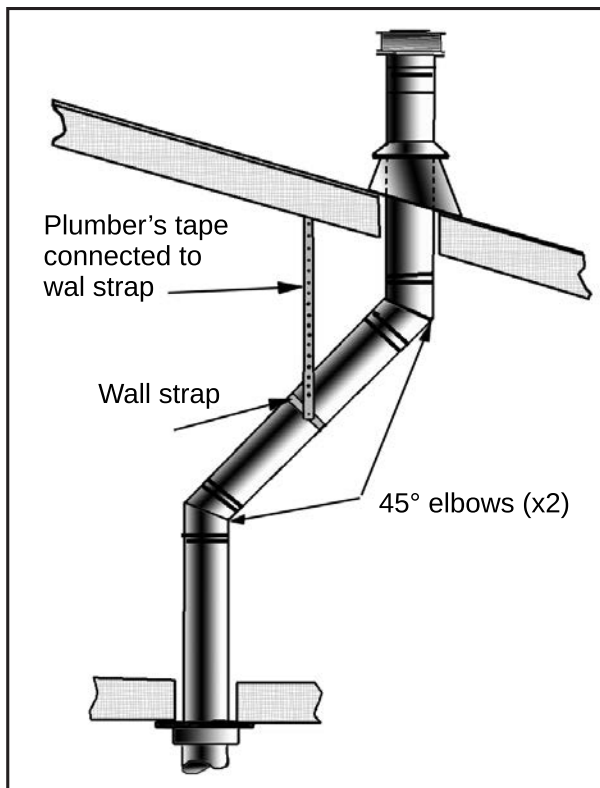
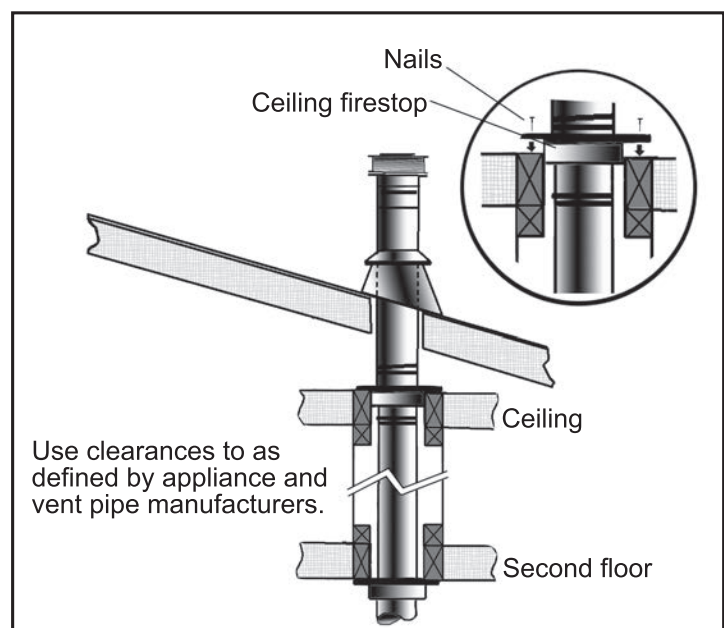

Figure 64: Use of Wall Straps.
Figure 65: Multi-Story Vent Pipe Installation
- (1) If an offset is necessary in the attic to avoid obstructions, it is important to support the vent pipe every **3' (914 mm)**, to avoid excessive stress on the elbows, and possible separation. Wall straps are available for this purpose (see Figure 64).
- (2) When ever possible, use 45° degree elbows instead of 90° degree elbows. The 45° degree elbow offers less restriction to the flow of flue gases and intake air.
- (3) For multi story installations; a ceiling firestop is required at the second floor, and any subsequent floors (see Figure 65). The opening should be framed to **10" (254 mm) x 10" (254 mm)** inside dimensions, in the same manner as shown in Figure 65.